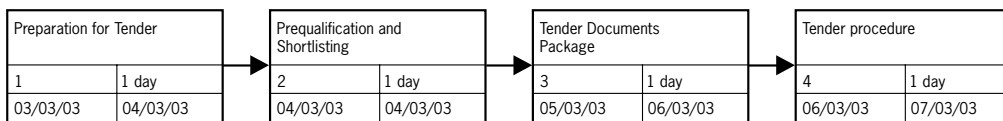

Figure 104 The four main products in 'delivery' sequence: a basic Product Flow Diagram
4. Once the boxes are roughly in position, create the logic flows. Click on a 'predecessor' box, then drag an arrow to a 'successor' box. Continue through the diagram to show the logical sequence and dependencies, as in Figure 104.
6. At this stage, the only information you probably need for each PFD box is the name of the Deliverable/Product. Click on 'Format/Box Styles/Boxes'. Dropdown menu 1, the top of five boxes, defaults to 'Name' in any case, so leave this unchanged. Select the **blank** entry at the top of each dropdown menu (2–5). You will then end up with an undivided box for each product containing just its name. See Figure 104.